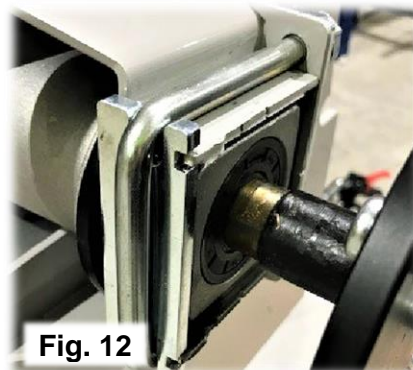

Fig. 12
12) Make sure that plate cutouts sit behind the locations. Tighten the M10 Binx nuts up to a torque of 35Nm. Ref. Fig. 12